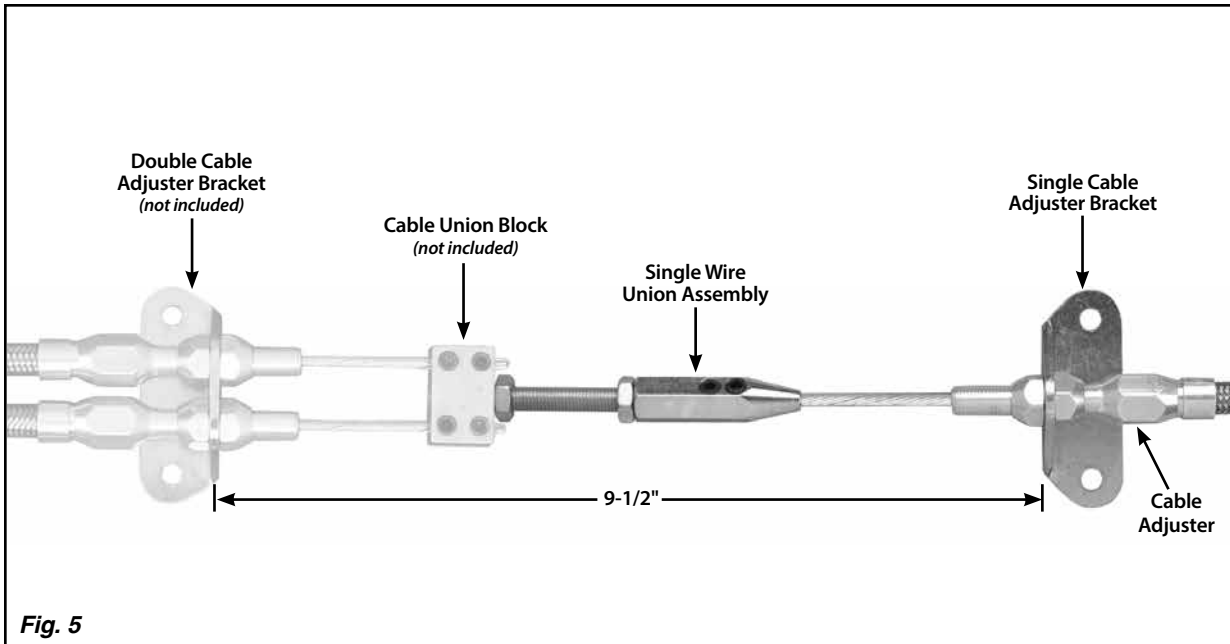

Fig. 5
**Step 4:** Determine where the single cable adjuster bracket will be mounted. The single cable adjuster bracket must be aligned with the double cable adjuster bracket (not included, comes with the rear Emergency Brake Cables) so that the cables are being pulled in a straight line, not at an angle. If you are using Lokar's Universal Emergency Brake Cables on your rear brakes, the single cable adjuster bracket should be mounted approximately 9-1/2" in front of the double cable adjuster bracket as shown in Fig. 5.